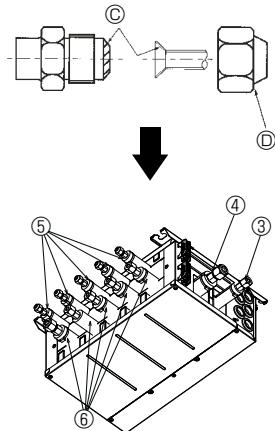

Fig. 7-2
- ① Apply refrigeration oil to the entire (Fig. 7-2) surface of the flared seat
- ② Basically use flared nuts fitted to the body (commercially available flared nuts may crack).